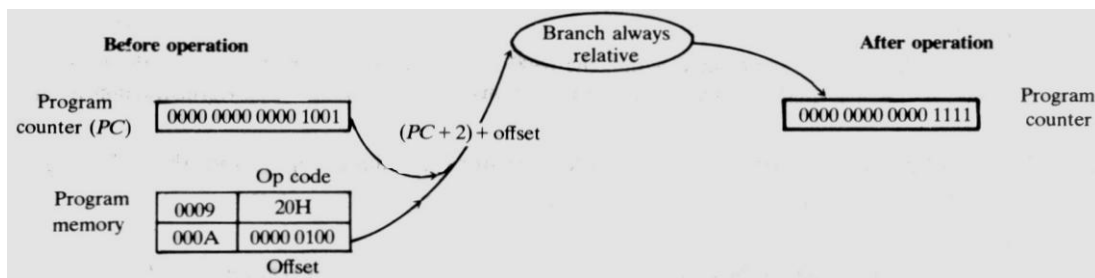

Figure 3.4 - Relative Addressing (branching forward)
Figure 3.4 shows the address calculation in the execution of the unconditional branch instruction (BRA). Program counter (PC) before the operation is 0009H. The opcode of the "branch always" instruction (20H) is fetched from location 0009H in program memory with the offset 04H (000001002). Then the program counter is incremented to the address of the next instruction (000BH) just before the actual operand fetch. The 6802 processor internally adds the offset (04H) to the current contents of program counter (000BH). The new address in the program counter after the "branch always" operation is 000B+04=000FH (0000 0000 0000 11112). The processor then jumps to this new address and fetches an instruction from location 000FH. Note that the offset's most significant bit (MSB) is 0. This indicates a positive offset, which causes a forward branch.